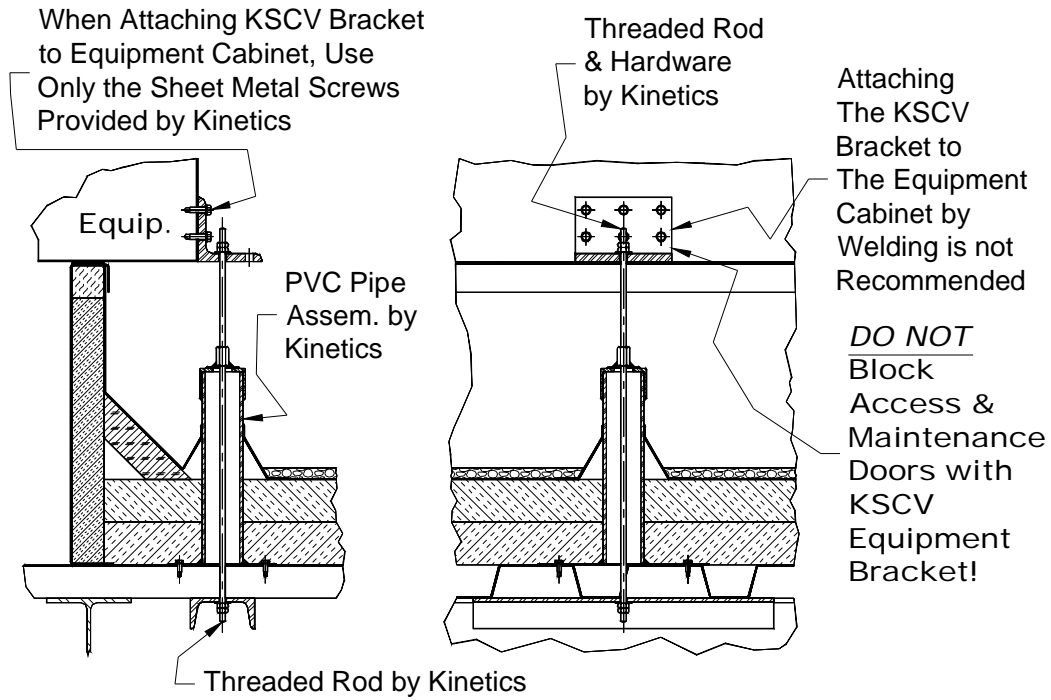

Figure D6.1-9; Typical KSCV Vertical Seismic Restraint Kit Installation.
The analysis performed by Kinetics Noise Control will indicate if uplift occurs at any of the corners of the equipment. If uplift is present, Kinetics Noise Control will recommend the use of model **KSCV**, Figure D6.1-9, vertical equipment restraint kits that restrain the equipment directly to the building. A minimum of one (1) **KSCV** kit will be required at each corner of the equipment. The analysis performed by Kinetics Noise Control will show exactly how many kits are required for an application. The reason Kinetics Noise Control recommends the use of the **KSCV** kits rather than taking the vertical loads through the curb, is that we do not control the construction of the curb, and can not guarantee that the curb side walls will be able to carry both horizontal and vertical loads generated by a seismic or wind event.